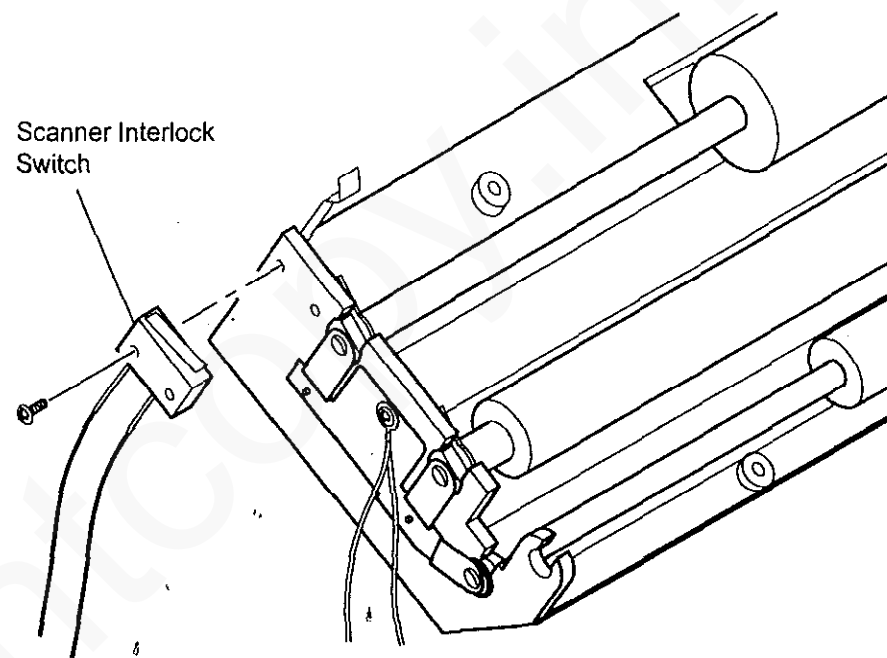

Figure 1 Removing the Scanner Interlock Switch
2. Remove the Scanner Interlock Switch (Figure 1).